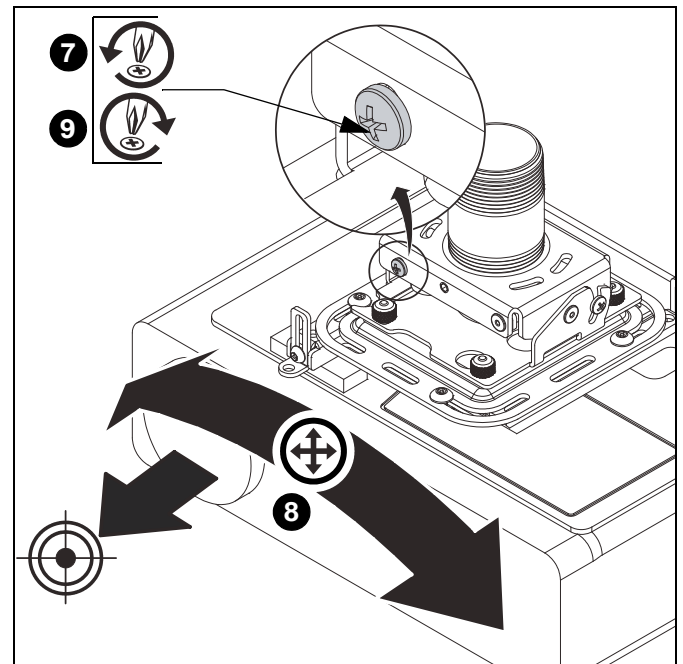

Figure 21
8. Adjust projector to desired roll position. (See Figure 21)